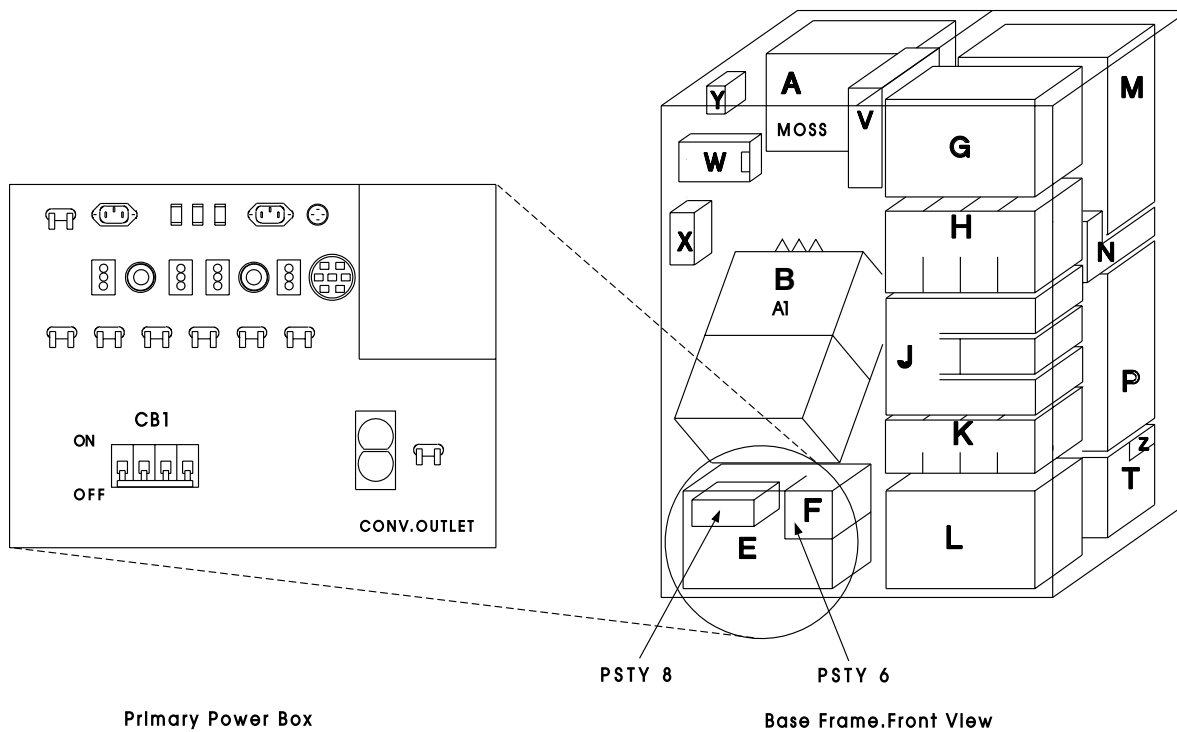

Figure 4-155. Primary Power BOX in Frame 01
4. Switch **CB1** OFF. Refer to Figure 4-155 for the location of CB1.